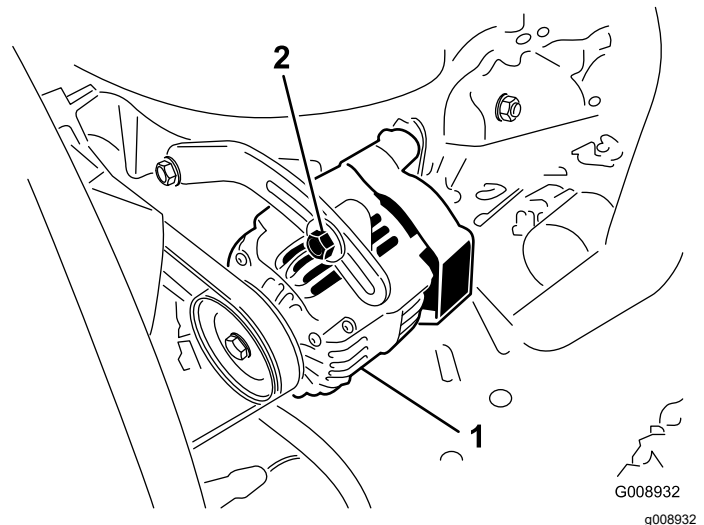

Figure 77
Check the condition and tension of the belts (Figure 77) after every 100 operating hours.
2. If the deflection is not 10 mm (3/8 inch), loosen the alternator mounting bolts (Figure 77).